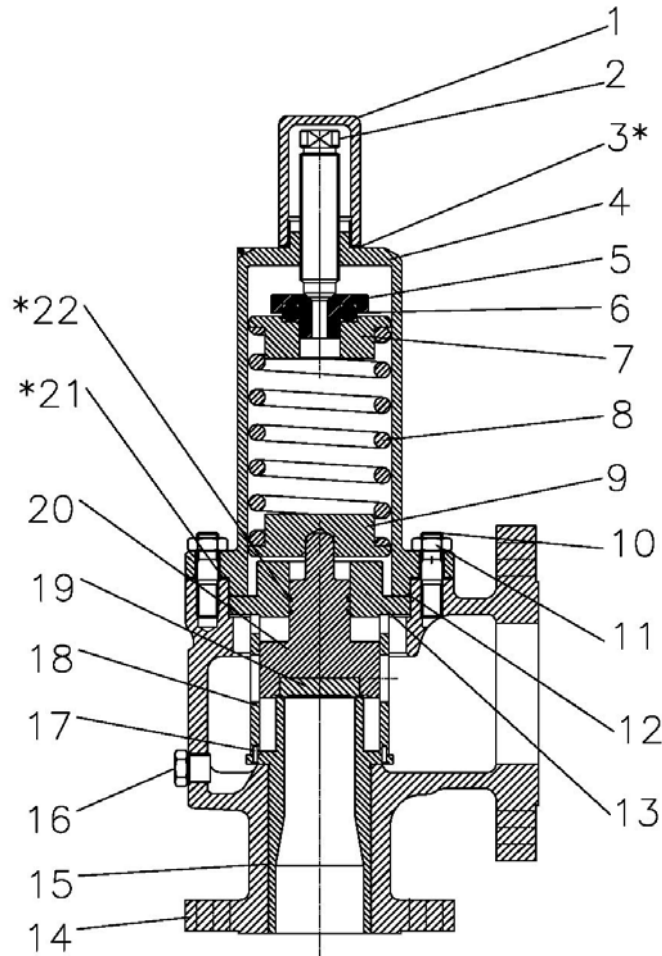

Fig.1: Assembly orifices G-J
3.1. CROSS-SECTIONAL DRAWING CS35 (fig.1)